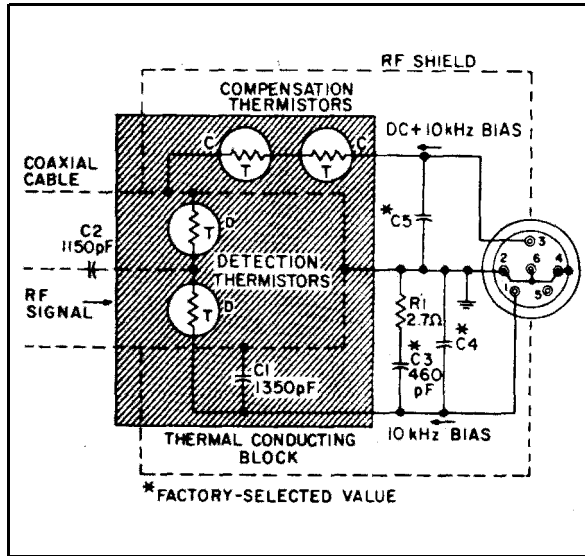

Figure 5. Schematic Diagram of a Model 478A Thermistor Mount when Connected to a 431 Power Meter
28. Note that some 10-kHz bias signal is coupled into the RF transmission system by C2 (Figure 5). If the RF source output impedance at 10 kHz is 15K ohms or greater, 10-kHz bias voltage is typically 1.3 V RMS and could equal 1.5 V RMS. For an RF source output impedance of 50 ohms at 10 kHz, bias signal voltage is typically 5 mV RMS.
48. Two matched series thermistors are mounted on a common thermal conducting block, represented by the shaded rectangle in Figure 5. One pair, marked "D" for detection, is mounted between the end of a coaxial cable and cylindrical cavity. These thermistors are exposed to incoming RF power which heats them, lowering their resistance. The other pair, marked "C" for compensation and situated immediately outside the cavity, is completely shielded from RF. With the 478A attached to the 431 Power Meter, the detection thermistors are part of the metering circuit.
53. Under normal operation, the total power supplied to heat thermistor pair "D" (see Figure 5) consists of 1) RF signal, 2) 10 kHz bias, 3) heat from the environment. The total power supplied to heat thermistor pair "C" consists of: 1) dc bias, 2) an equal amount of 10 kHz bias, and 3) heat from the same environment. As "D" and "C" are matched thermally, the total amounts of heat applied to reduce their series resistance equally must be equal.